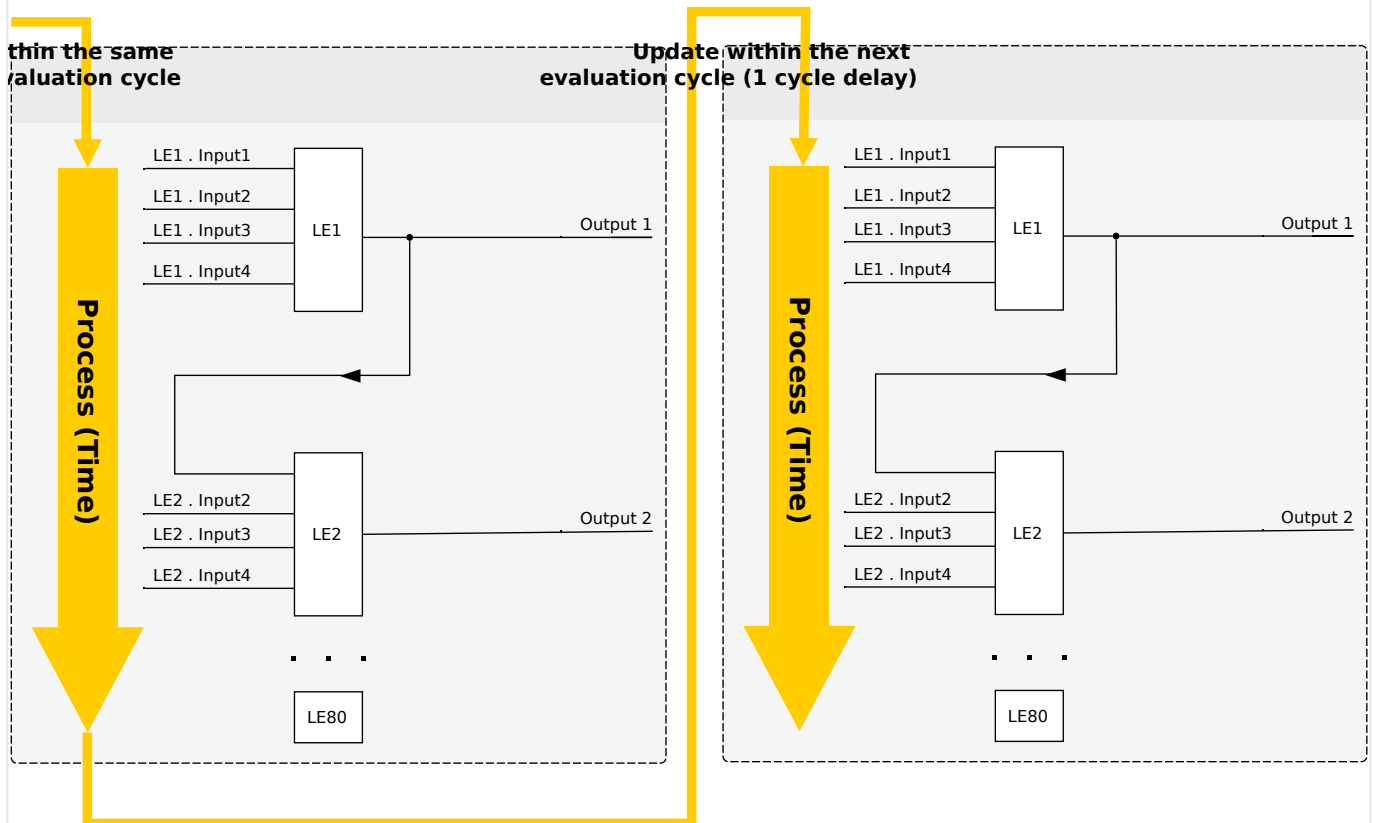
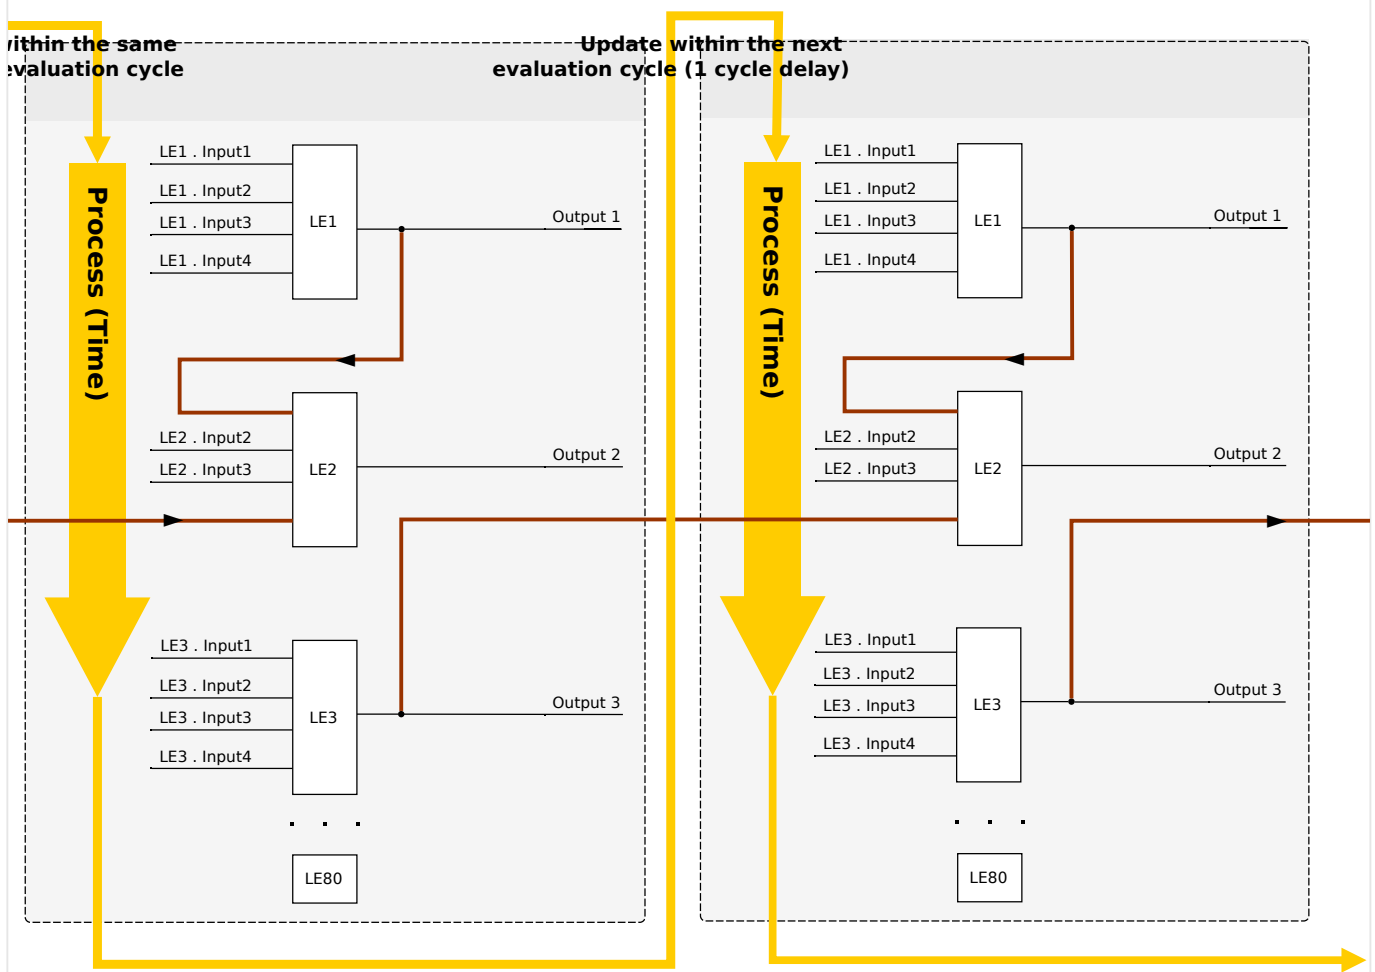

Fig. 166: Cascading in Ascending Order.
Fig. 167: Cascading in Descending Order.
- **Ascending** sequence means that some output is fed into the input of a logic equation with **higher** number. For instance, diagram →Fig. 166 below shows an example where the result of Logic Equation LE1 is used as an input of Logic Equation LE2.
- **Descending** sequence means that some output is fed into the input of a logic equation with **lower** number. For instance, diagram →Fig. 167 shows an example where the result of Logic Equation LE3 is used as an input of Logic Equation LE2.
Both ascending and descending sequences may be used and combined one with the other, with no immediate difference. However, due to the evaluation of all equations in ascending order the actual run-time values that are fed in at the input of an equation will have a different “age”, as is shown in →Fig. 166 and →Fig. 167 below.
In the example shown in Fig. 167 above, “Logic Equation 2” uses the output states of two other equations, “Logic Equation 1” and “Logic Equation 3”. The result of “Logic Equation 1” is used in ascending order and has therefore been evaluated within the same process cycle. The result of “Logic Equation 3” is used in descending order and has therefore been evaluated in the previous process cycle.